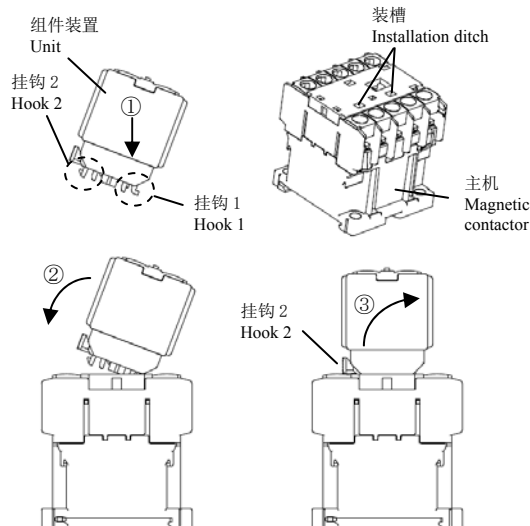

Fig.1
3. 安装及拆卸方法 (Fig.1)
3. Mounting and removal (Fig.1)
- The installation tips a unit diagonally from the ① direction and pushes it to the main body, and please confirm that hook 1 of the unit hangs it on the installation ditch of the main body and moves it after a figure to the ② direction, and hook 2 is attached to the main body well.
- Please take it off after the disassembly moves to a course of ③ in the state that pushed hook 2 of the unit with a finger, and canceling a lock state.